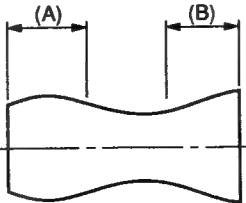

Fig. 7-3-6
- 4. If the (A) section in Fig. 7-3-6 does not meet the specifications, adjust the S guide roller in up or down direction.
- 5. If the (B) section in Fig. 7-3-6 does not meet the specifications, adjust T guide roller in up or down direction.